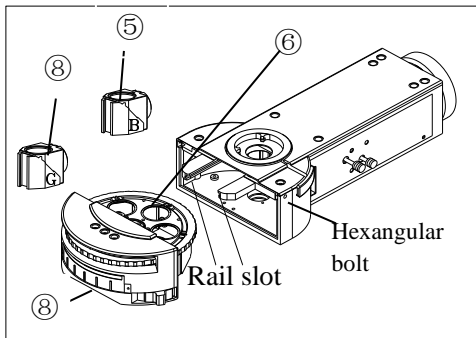
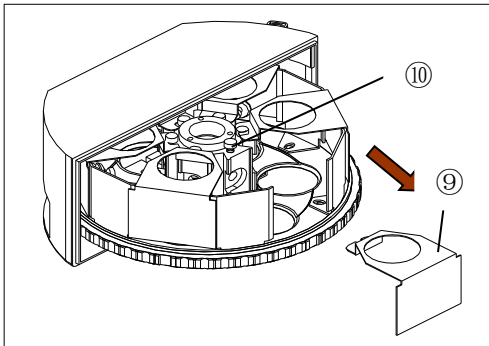

Fig 3
Fig 4
2.3 Mounting Filter Blocks (fig.3, fig.4)